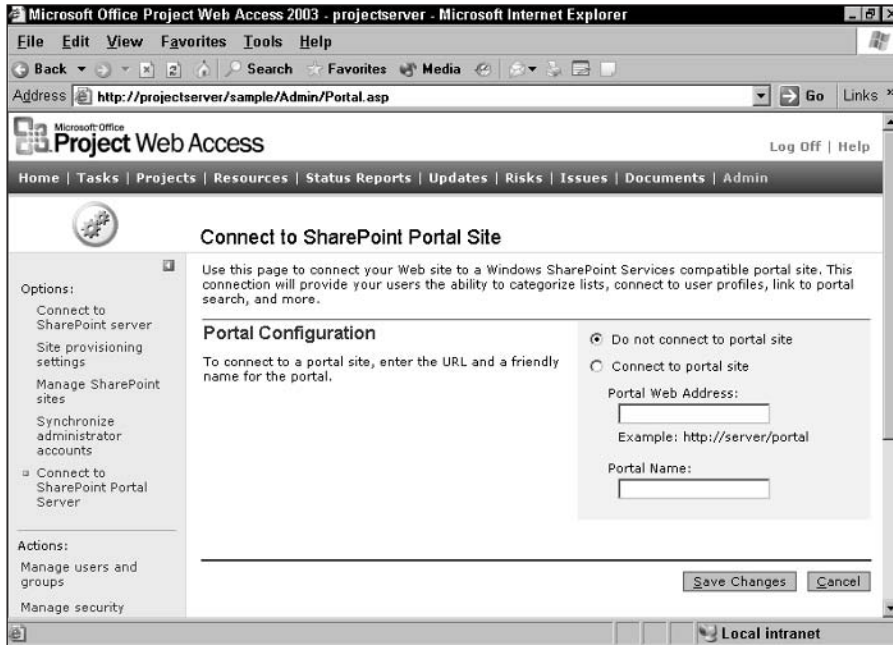

Figure 18-38: Provide SharePoint portal server information.
4. On the Connect to SharePoint Portal Site page (see Figure 18-38), provide the appropriate portal site information.